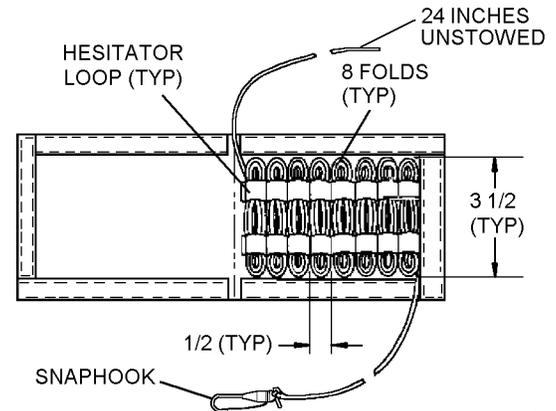

Figure 9-21. Stowed Painter Line
10. Stow painter line in painter line pouch by forming eight 3 1/2-inch bights in line and inserting each bight in eight hesitator loops provided. Leave 24 inches of unstowed painter line at each end of pouch. See figure 9-21. Close pouch; then secure with hook and pile tape provided.